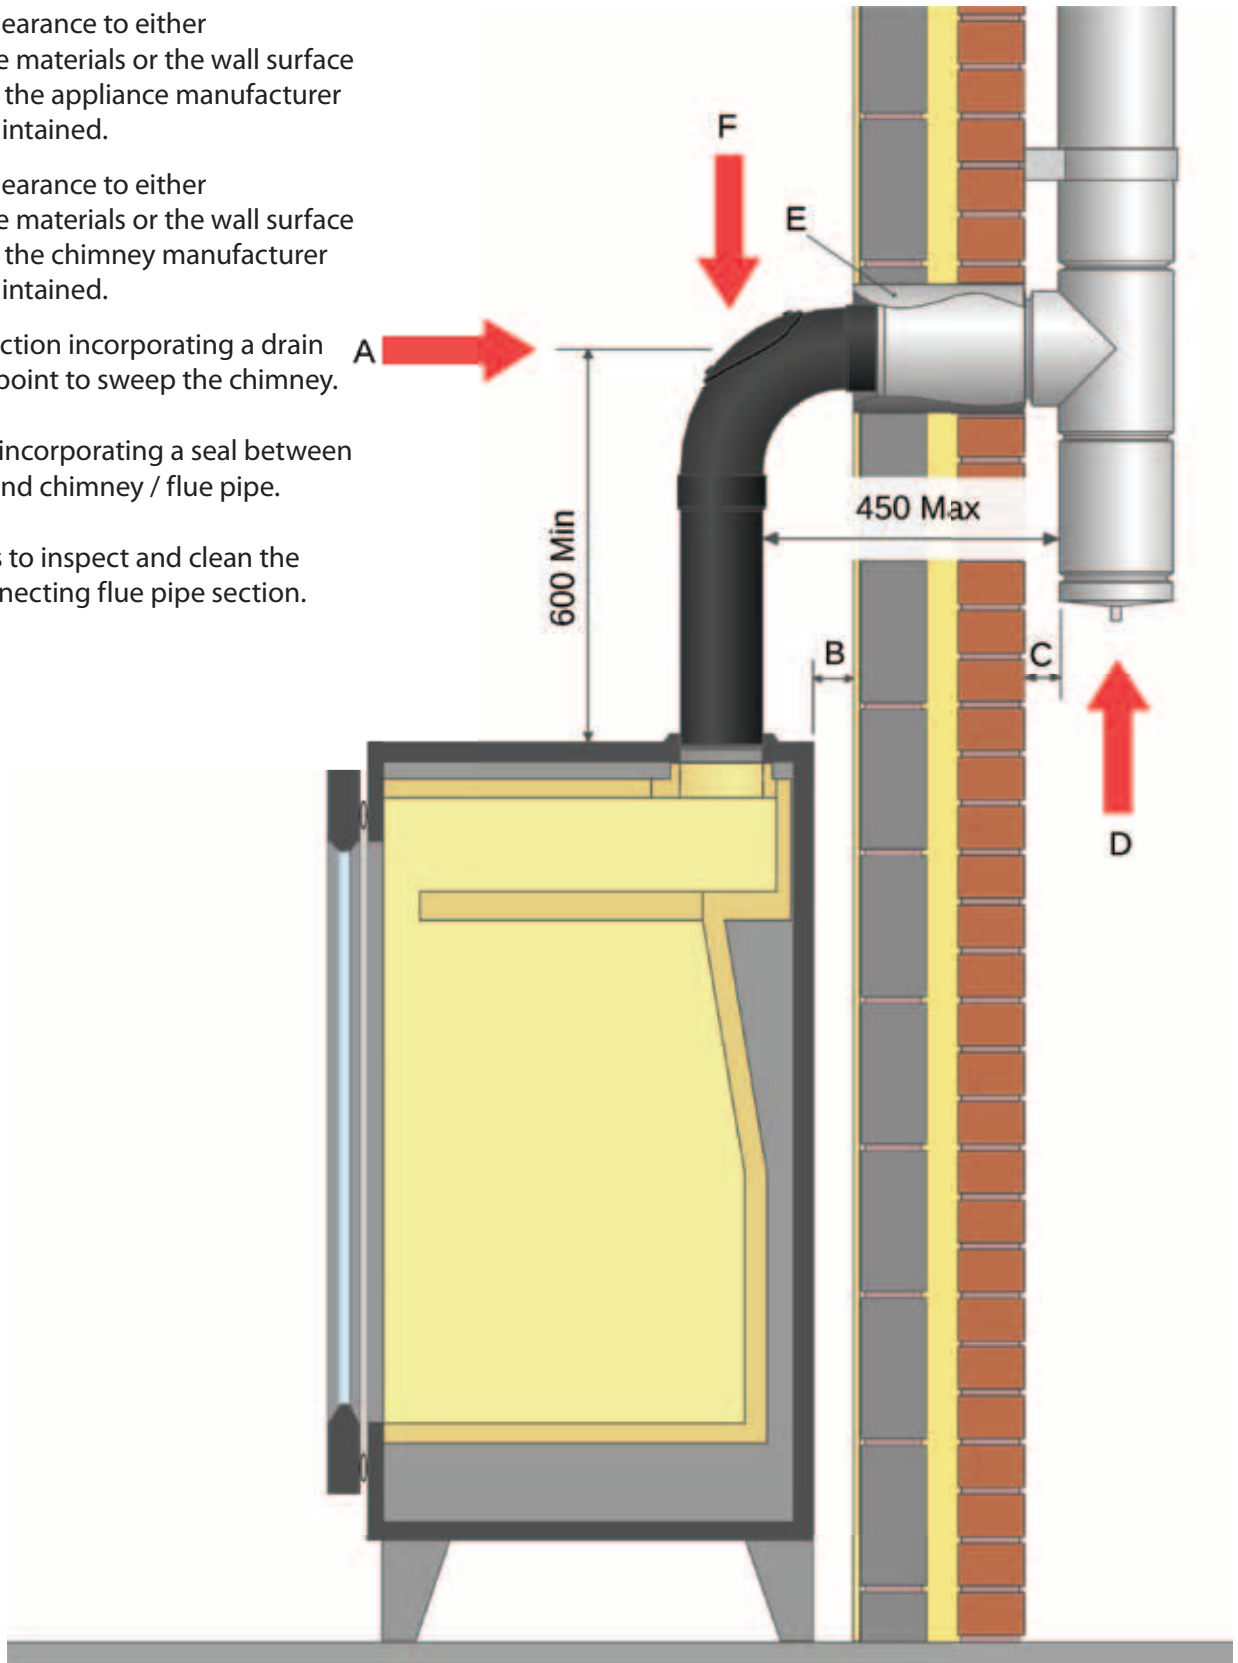

Figure 7: Typical installation using an appliance with a vertical flue outlet to an external system chimney
- Where an appliance with a vertical chimney exit is used, there is at least 600mm between the top of the appliance and centre line of the horizontal section (see Figures 7 & 8).